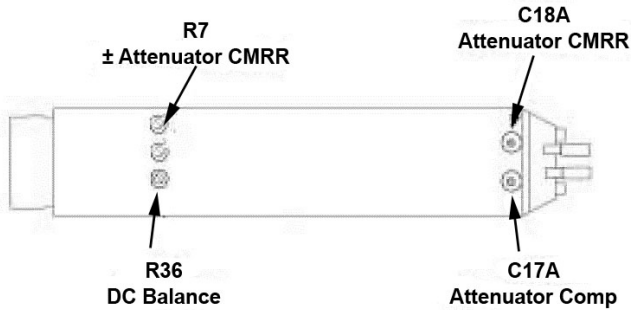

Figure 10, Probe Tip Adjustment Locations
12. Adjust \div **CMRR** (R7) for minimum amplitude. (See Figure 10 for location.)
- Adjust **Attenuator Comp** (C17A) for a flattop waveform. See Figure 10 for adjustment location.